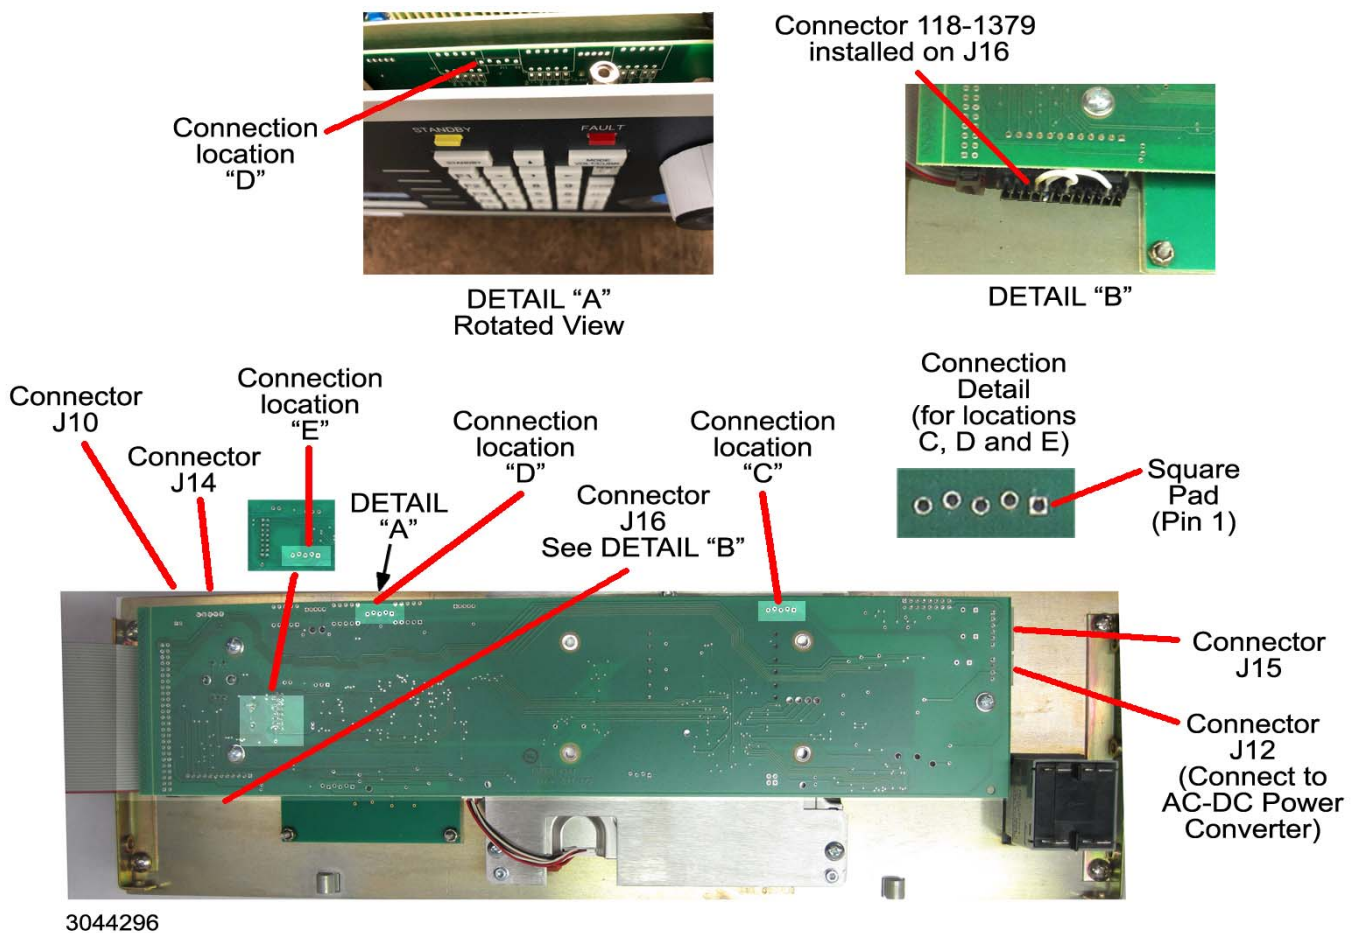

FIGURE 1. A6A1 BOARD (ATTACHED TO FRONT PANEL), COMPONENT LOCATIONS
5. Disconnect one 4-pin and one 6-pin connector) (J12, J15, Figure 1). If necessary a screw driver can be used to apply pressure to the front panel to separate the mating connectors.
6. Refer to Figure 1 to locate the programming connection for the serial processor firmware update (PAR. 3.7) at either Location "D" or "E" (depending on PWB revision) It is five holes in the Printed Wiring Board that are not in line but slightly joggled. If the programming connection is found at Location "D", skip all remaining steps and proceed to PAR. 3.3.
7. Remove 5-pin connector (J14, Figure 1) from Distribution board A6A1. A screwdriver can be used to apply pressure as needed to separate the mating connectors.
8. Carefully remove the hot melt glue securing connector (J10, Figure 1). Once the glue is removed pull the connector body (not the wires) straight back. A screwdriver can be used to apply pressure as needed to separate the mating connectors.
3. Install the 5-pin header (supplied) into the bottom of the PICKit, then install the other end of the PICKit into Location) “C” shown in Figure 1.
2. Connect the AC-DC Power Converter d-c cable to the 4-pin connector the 4 pin connector as shown in Figure 1. [closest to the circuit breaker mounted on the display panel].
2. Locate the programming connection at Location “C” as shown in Figure 1. It is five holes in the Printed Wiring Board that are not in line but slightly joggled. This allows the male pins of the PICKit Programmer to be firmly retained in the socket.
- Locate the programming connection at either Location “D” or “E” (depending on PWB revision) as shown in Figure 1. It is five holes in the Printed Wiring Board that are not in line but slightly joggled. This allows the male pins of the PICKit Programmer to be firmly retained in the socket.
- Install Connector P/N 118-1379 on J16 of A6A1 board (see Figure 1).
3. Connect two 4-pin connectors (or one 4-pin and one 6-pin connector), and one 5-pin connector attached to twisted pairs to connectors J12, J15 and J14, respectively on Distribution board A6A1 (see Figure 1). The 4-pin connectors can plug into either J12 or J15; holding the wires, line up the pins on an angle, then push until straight and press into place; if necessary a screwdriver can be used to apply enough pressure to front panel to slightly increase separation between front panel and Distribution board A6A1, enough for the connectors to be inserted.
4. Attach the fan connector (J10, Figure 1) by inserting the connector straight into the mating socket.